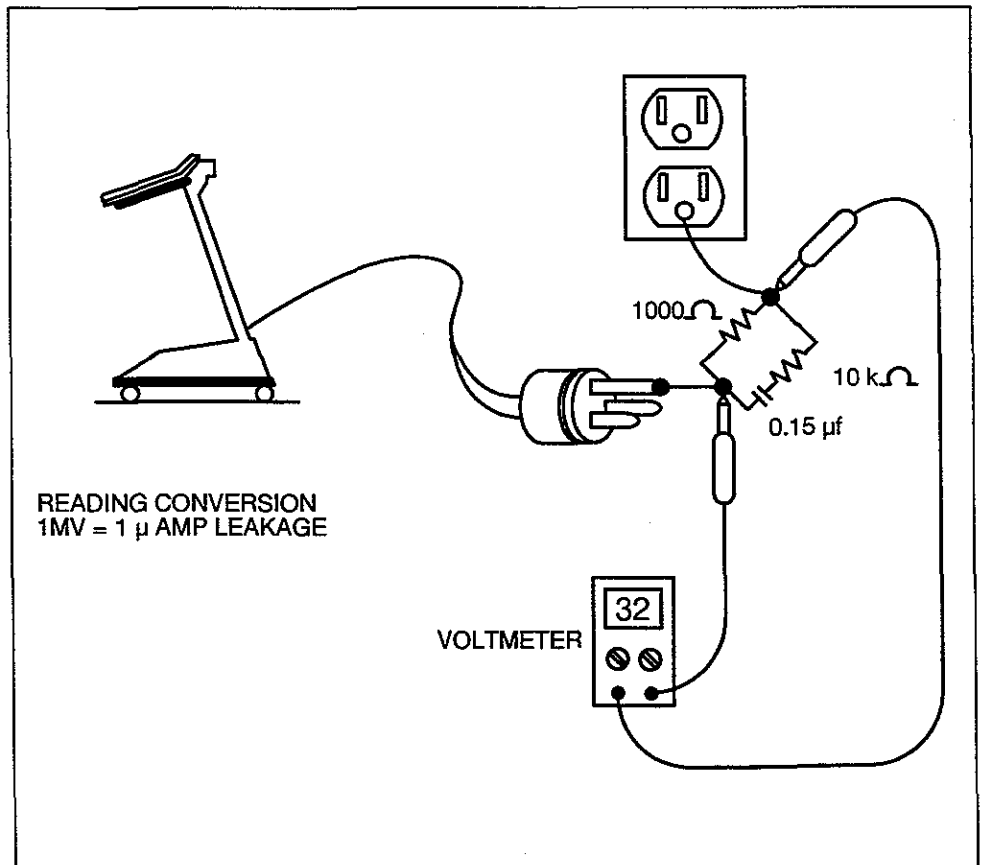

Figure 7-1
1. Check the electrical leakage with a leakage meter, or use an AC voltmeter with the attenuation network shown in Figure 7-1. Check the leakage through the power cord ground with ground open. The leakage should be less than 300 microamperes for U.L. listed Models (domestic—UL2601) and less than 500 microamperes (export—IEC 601-1) for all others. If higher, check for the cause and repair.